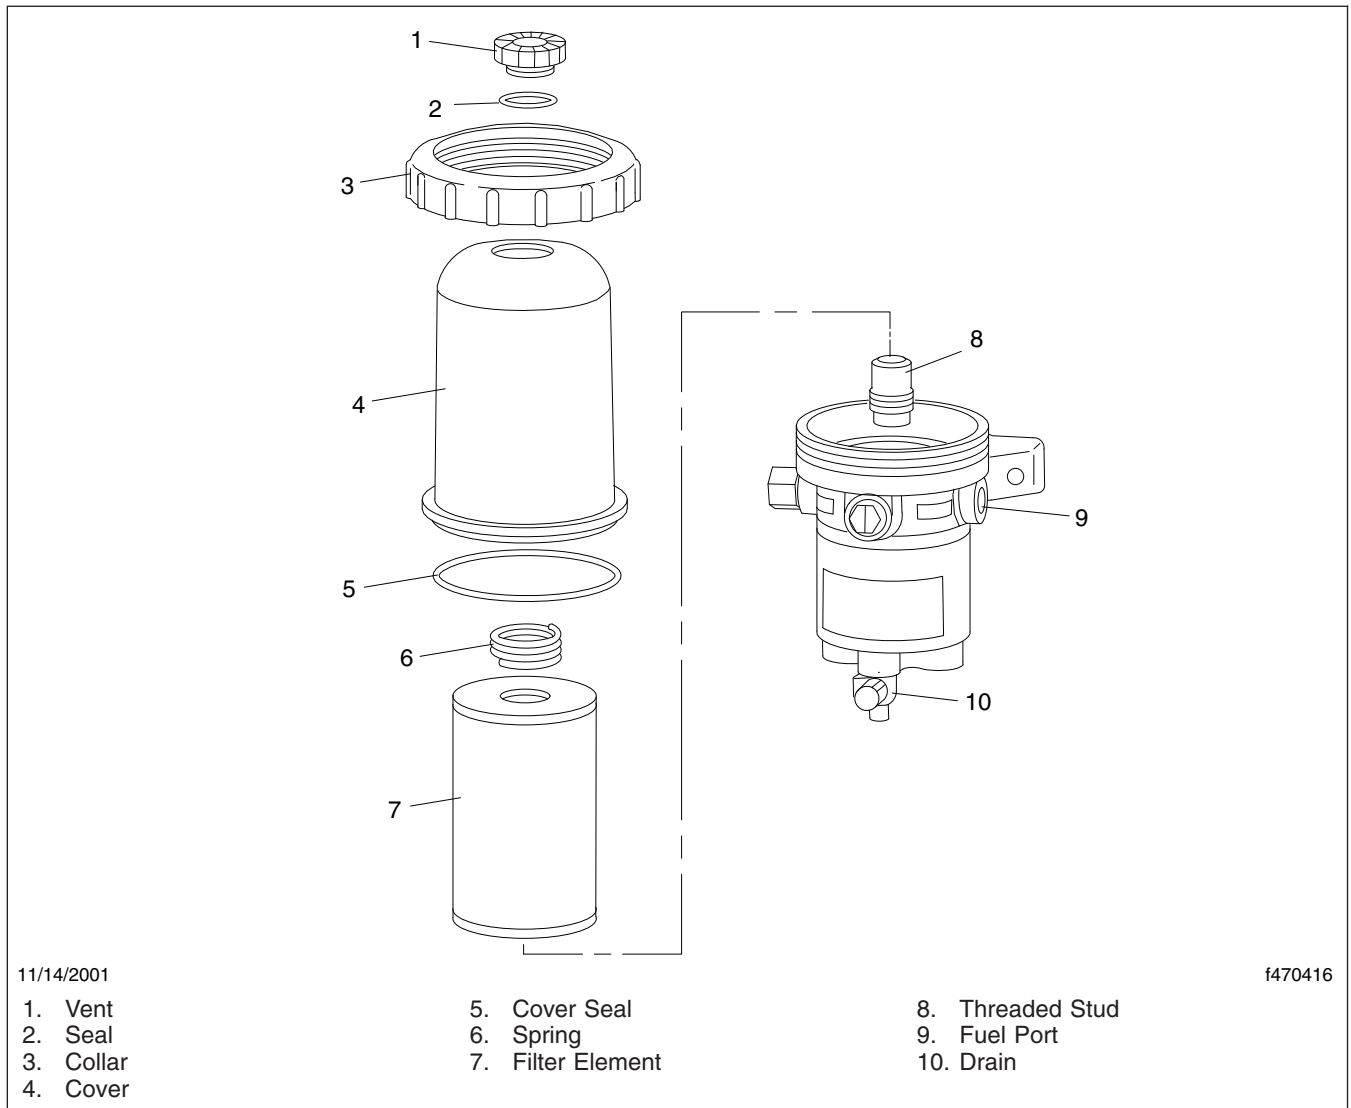
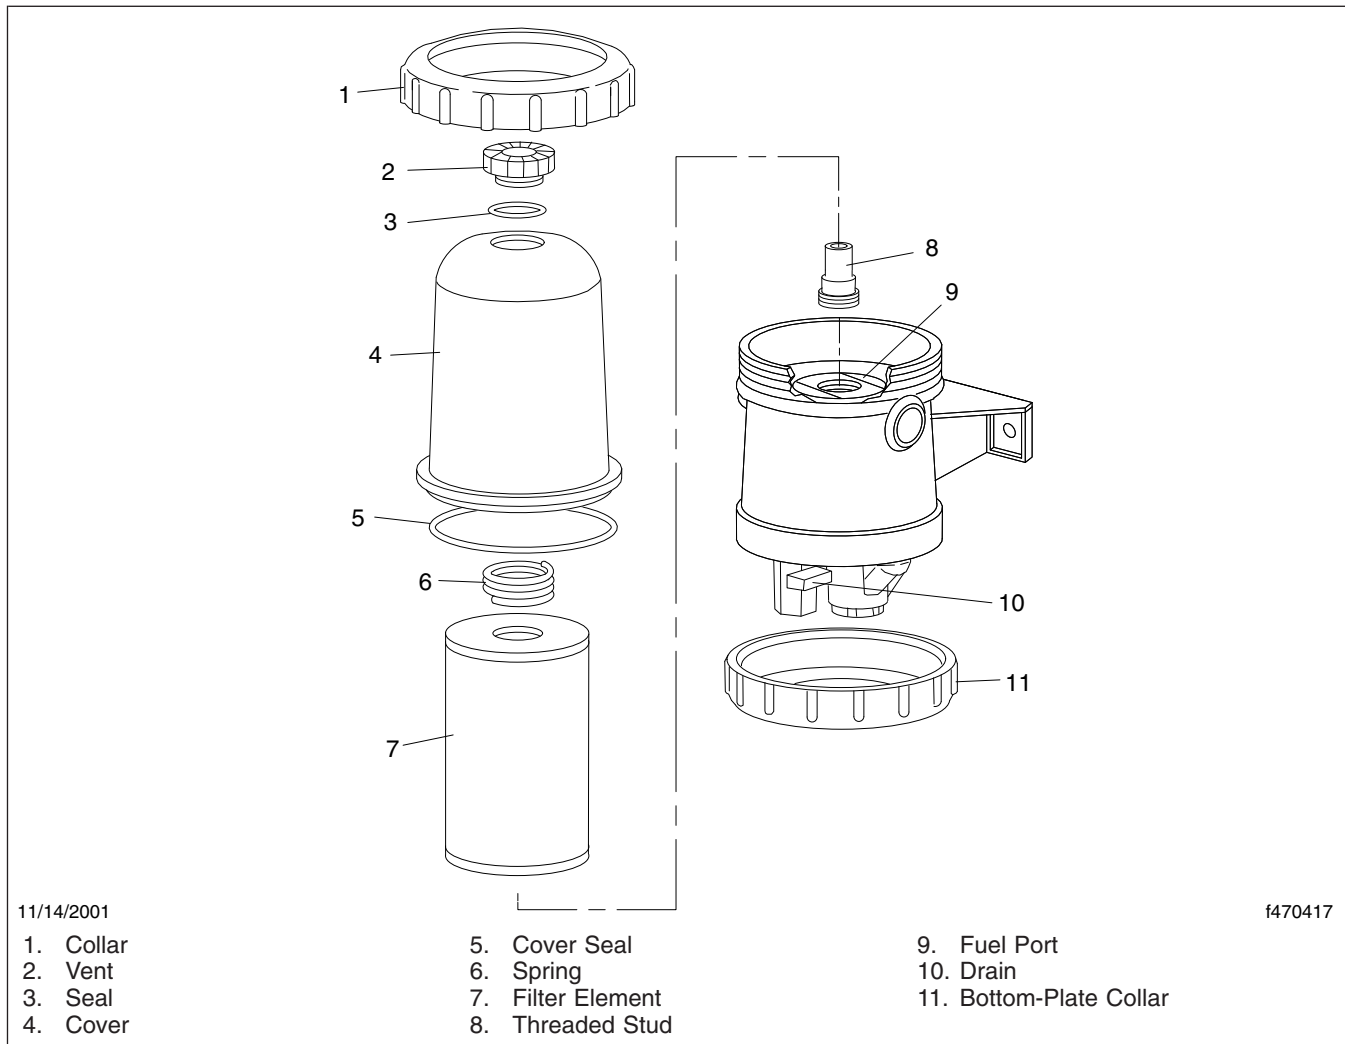

Fig. 24.2, Davco Model 232 and 233 Fuel/Water Separator
Fig. 24.3, Davco Model 382 Fuel/Water Separator
1. Drain the fuel until it is below the level of the collar. See **Fig. 24.2** for the model 232/233 fuel/water separator and **Fig. 24.3** for the model 382 fuel/water separator.